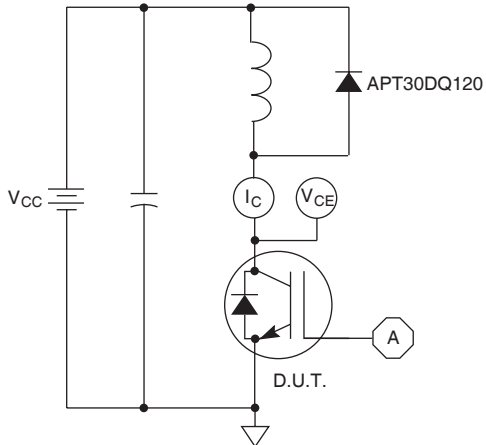

Figure 21, Inductive Switching Test Circuit
- ① Repetitive Rating: Pulse width limited by maximum junction temperature.
- ② For Combi devices,  $I_{ces}$  includes both IGBT and FRED leakages
- ③ See MIL-STD-750 Method 3471.
- ④  $E_{on1}$  is the clamped inductive turn-on energy of the IGBT only, without the effect of a commutating diode reverse recovery current adding to the IGBT turn-on loss. Tested in inductive switching test circuit shown in figure 21, but with a Silicon Carbide diode.
- ⑤  $E_{on2}$  is the clamped inductive turn-on energy that includes a commutating diode reverse recovery current in the IGBT turn-on switching loss. (See Figures 21, 22.)
- ⑥  $E_{off}$  is the clamped inductive turn-off energy measured in accordance with JEDEC standard JESD24-1. (See Figures 21, 23.)
- ⑦  $R_G$  is external gate resistance, not including  $R_{G(int)}$  nor gate driver impedance.